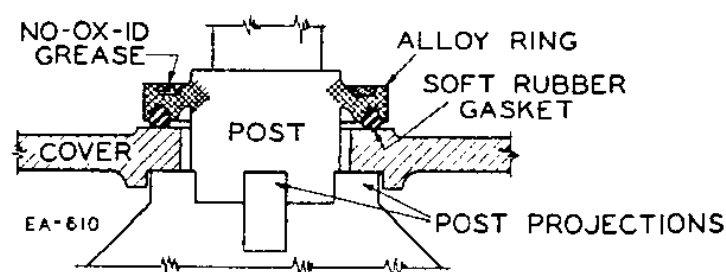

Fig. 25
a. To remove cover from element having a burned ring seal, examine Fig. 25 to note a slight clearance between ring and cover. The ring can be broken off by prying under alloy ring with a screw driver. Run a warm putty knife through compound and close to jar. When compound is cut through, lift up cover over posts.